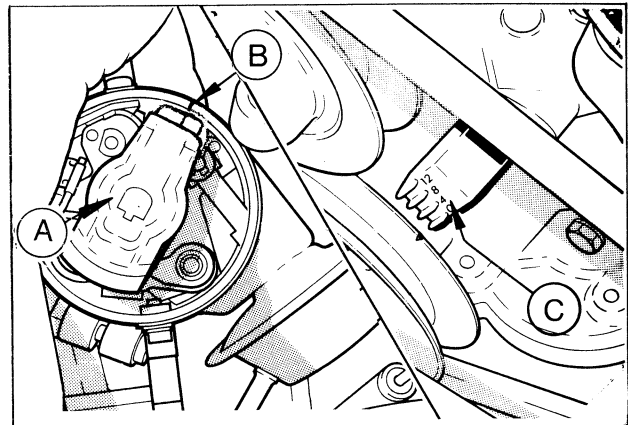

FIG. 13 Rotor Location
4. Position engine at TDC on No. 1 cylinder. The notch (TDC) on the crankshaft pulley should be lined up with the 0 mark (TDC) on the front cover and the rotor should be lined up with the scribe mark on the distributor housing (Figure 13).
3. Install distributor into block and install retaining bolt. Rotor should be aligned with scribe mark at this time (Figure 13).